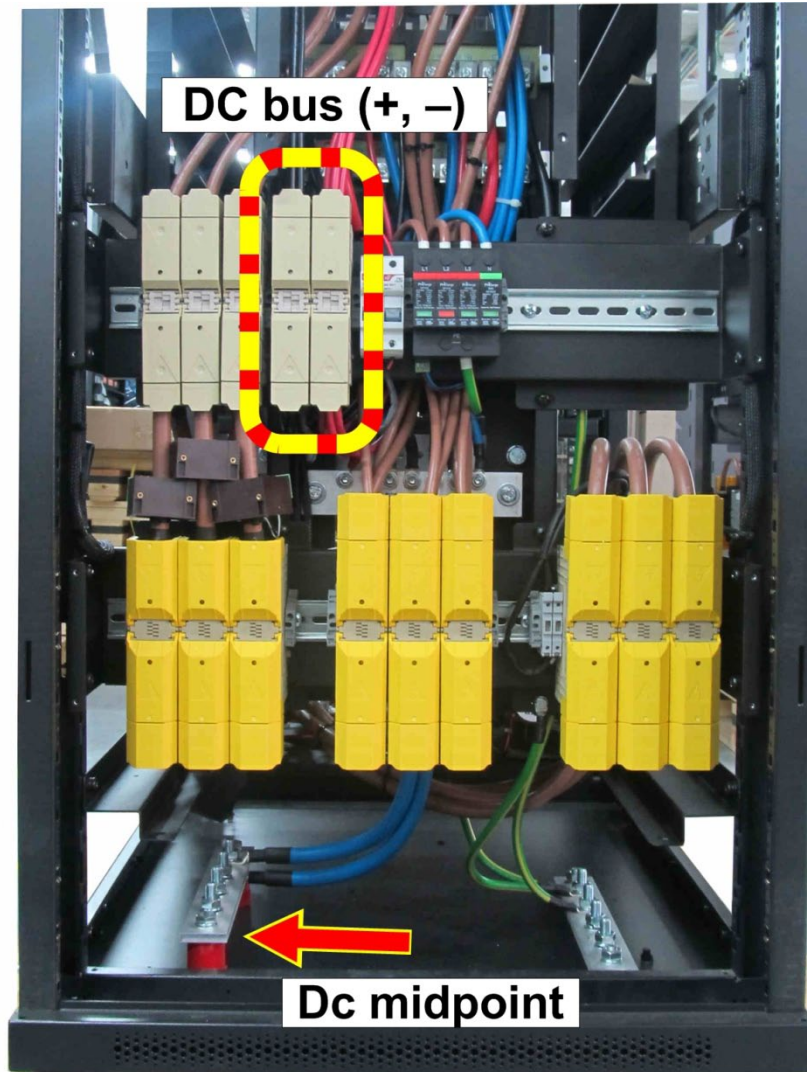
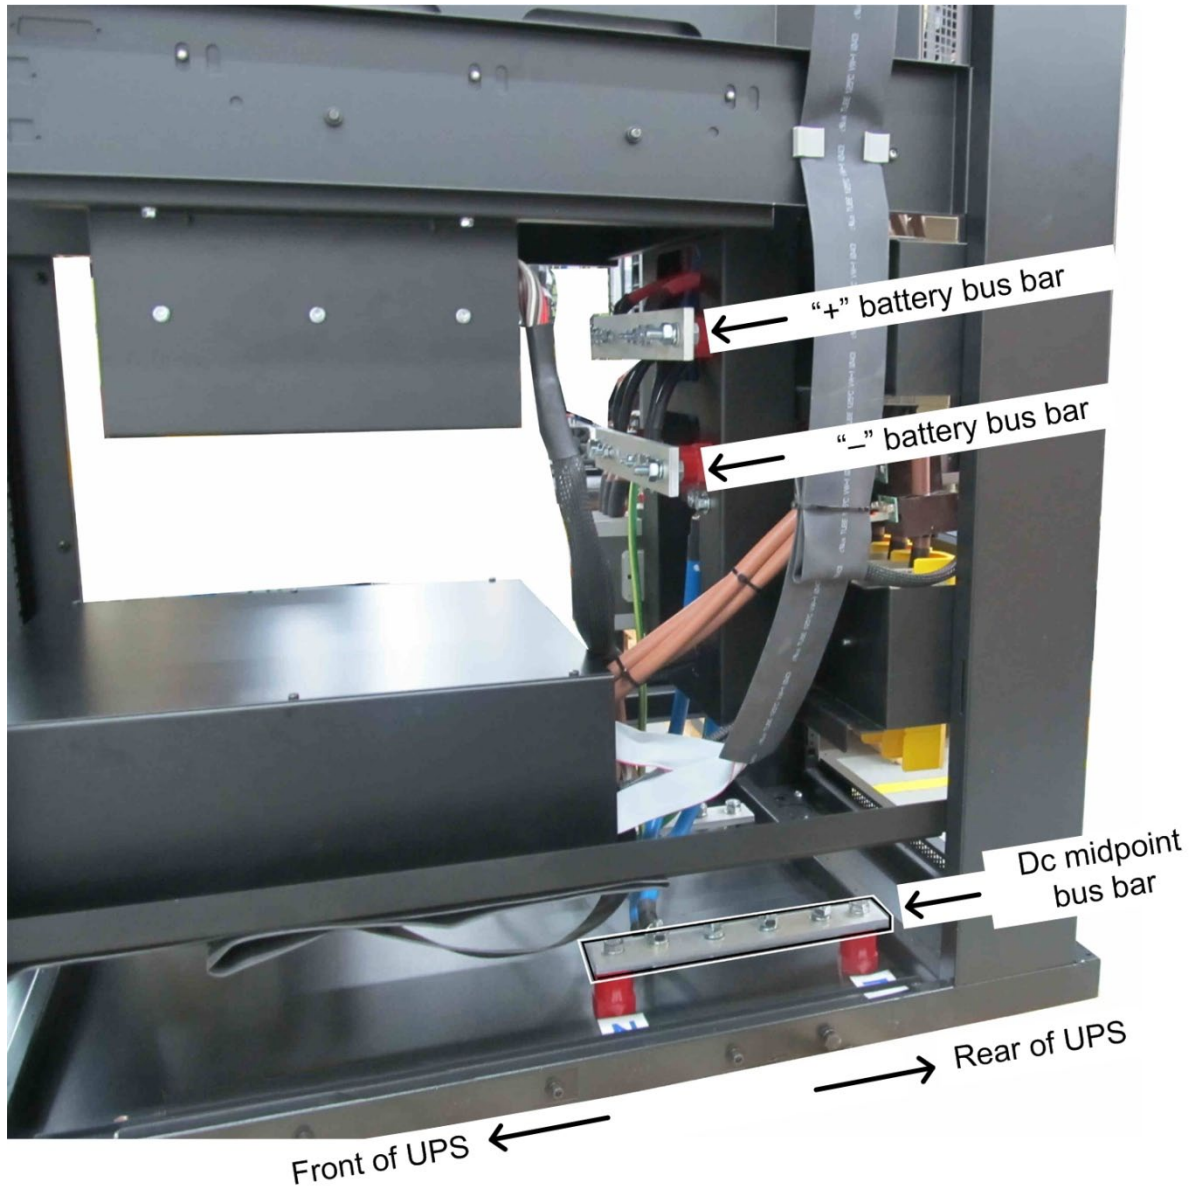

Figure 22: Measure the module's dc voltage between the dc bus and midpoint
Figure 24: Battery bus bars and midpoint bus bar in Centric's underbelly
2. On the rear side of the UPS, measure the voltage between the negative ("–" dc bus and midpoint bus bar. **See Figure 22.** You would expect the value to be around 435 Vdc, ± 10 V.
2. On the rear side of the UPS, measure the voltage between the negative (“–”) dc bus and midpoint bus bar. **See Figure 22.** You would expect the value to be around 435 Vdc, ± 10 V.
1. Measure the actual battery voltage with a calibrated voltmeter. There are labeled battery dc bus bars inside the UPS. Carefully, observing all safety precautions, measure the voltage between the negative ("–") battery bus bar (Figure 24) and the midpoint bus (Figure 22).
3. Next, measure the voltage between the positive ("+") battery bus bar (Figure 24) and the midpoint bus (Figure 22). If your measured value differs from the Centric's measured value, enter your measured value into the field labeled "battery positive dc voltage".
2. The dc bus is located on the rear of the UPS (Figure 22). Using a calibrated voltmeter, measure the actual dc voltage between the negative ("–") dc bus and the midpoint bus (Figure 22).
3. The battery bus is located inside the lower part of the UPS (Figure 24). Using a calibrated ammeter, measure the actual dc current between the negative ("–") battery bus and the midpoint bus (Figure 22).